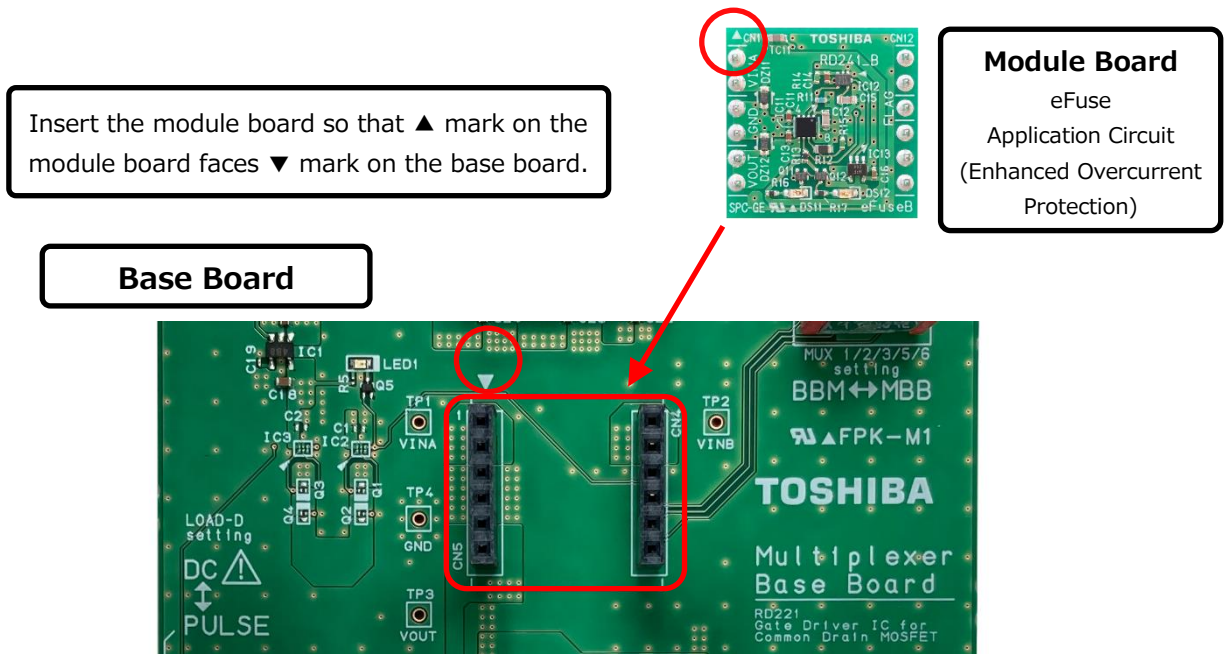

Fig. 4.2 Connection Between Base Board and Module Board
1. Connect the module board to the module board connector (CN4, CN5) on the base board as shown in Fig. 4.2.